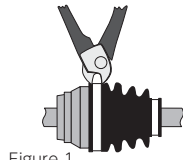

Figure 1.
- In addition, boots can also be cut, speeding up a series of operations. (Figure 1)